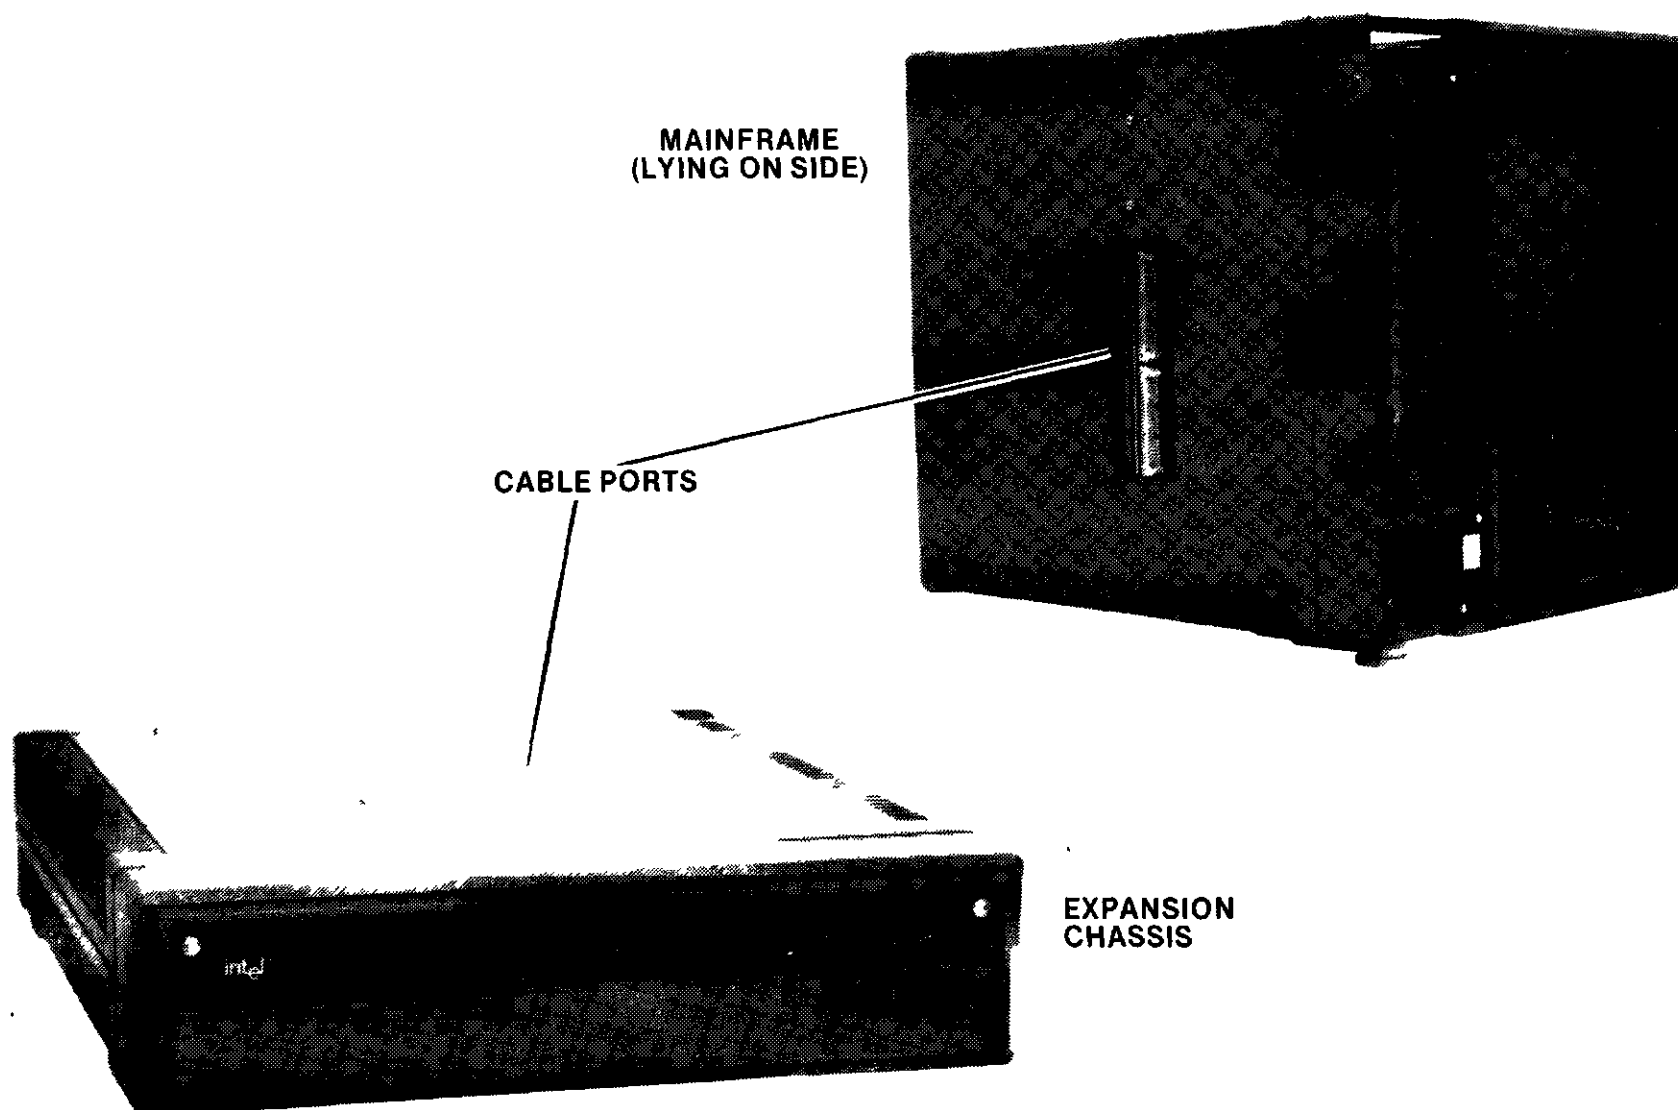

Figure 4-1. Mainframe and Expansion Chassis Cable Ports
3. Turn mainframe on its side as shown in figure 4-1. Remove cable port covers from mainframe and expansion chassis.